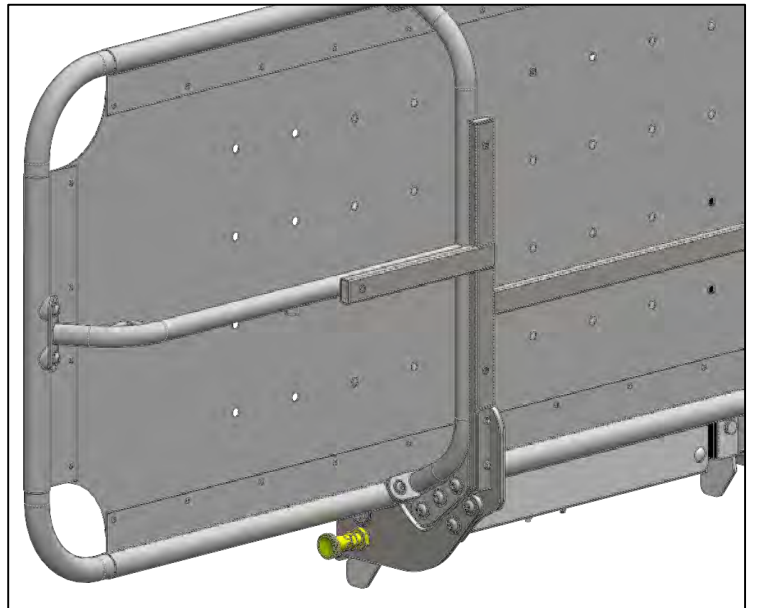

Fig. 7
- Pull out the head of the plunger pin (shown in Fig.7). With the other hand, start to raise the drip tray.